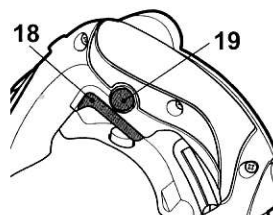

Fig. 7
- > Press the lock-off button (19) and hold it in position.
- > Press the on/off switch (18) to switch the product on (Fig. 7).
- > Release the on/off switch (18) to switch the product off.